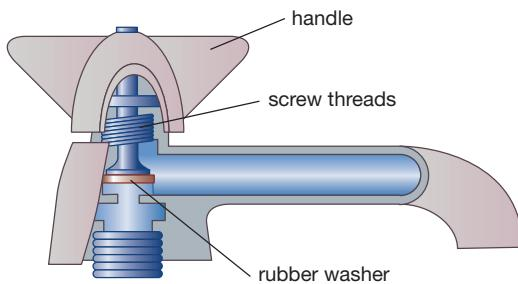

Figure 8.4.2
- 7 **Use** Figure 8.4.2 to explain how using the handle of a tap increases the size of the force you apply to its spindle.